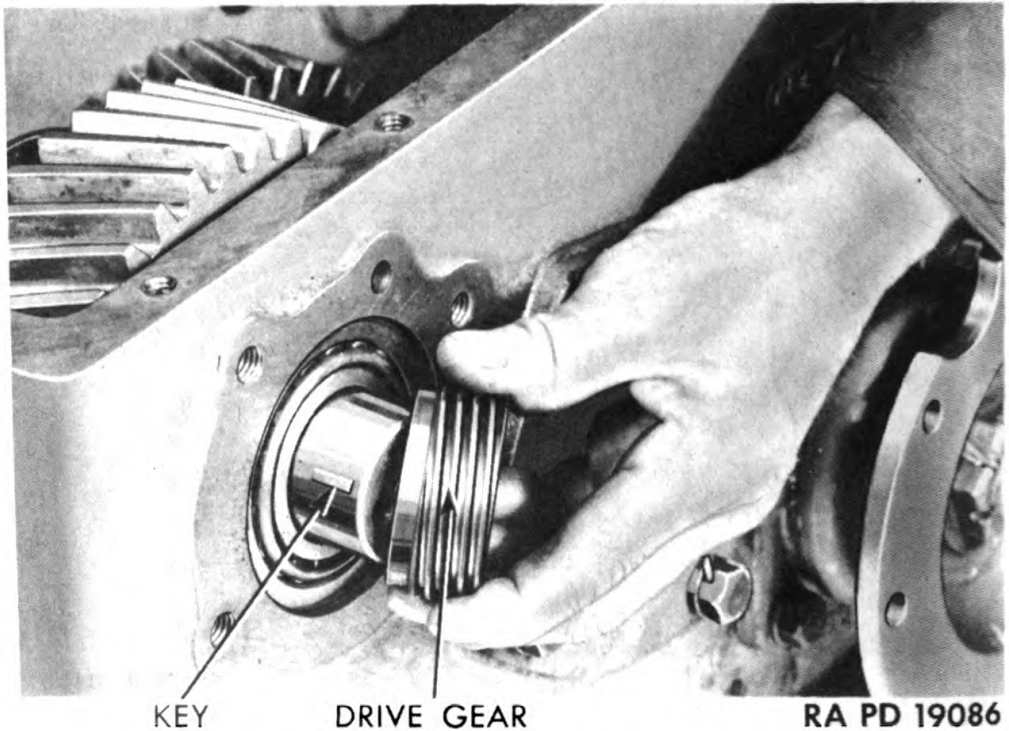
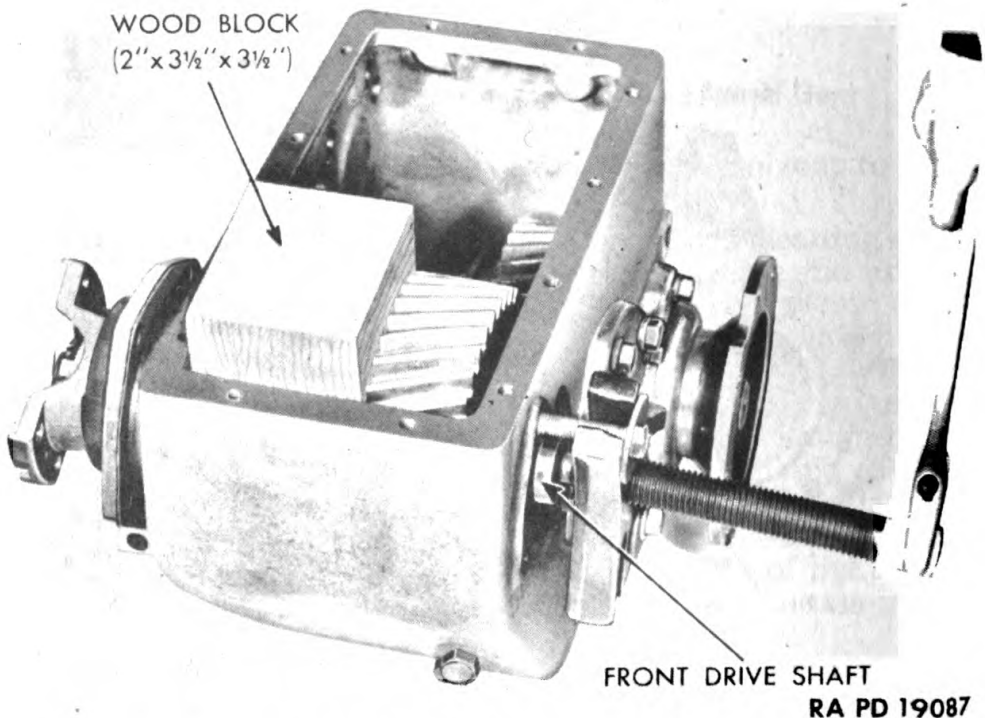

Figure 164 — Removing Speedometer Drive Gear
Figure 165 — Pressing Front Axle Drive Shaft from Transfer Case
r. Remove Transfer Case Front Axle Drive Gear and Shaft. Remove four cap screws and lock washers from front axle drive shaft front bearing cap (fig. 162). Remove four cap screws and lock washers from front axle drive shaft rear bearing cap, and remove bearing cap with speedometer driven gear and shims from case (fig. 163). Remove lock wire from two retaining cap screws in rear end of front axle drive shaft. Remove cap screws and bearing cone retaining washer. Pull or pry speedometer drive worm gear from shaft (fig. 164). Note that hub of gear is toward bearing. Remove Woodruff key from shaft. Place a wood block, 2 x 3½ x 3½ inches, between gear and front wall of transfer case. Attach puller by means of screws so that it can be used as a pusher, and push shaft through tapered roller bearing cone until shaft is free from bearing cone (fig. 165). Complete removal of shaft by pulling